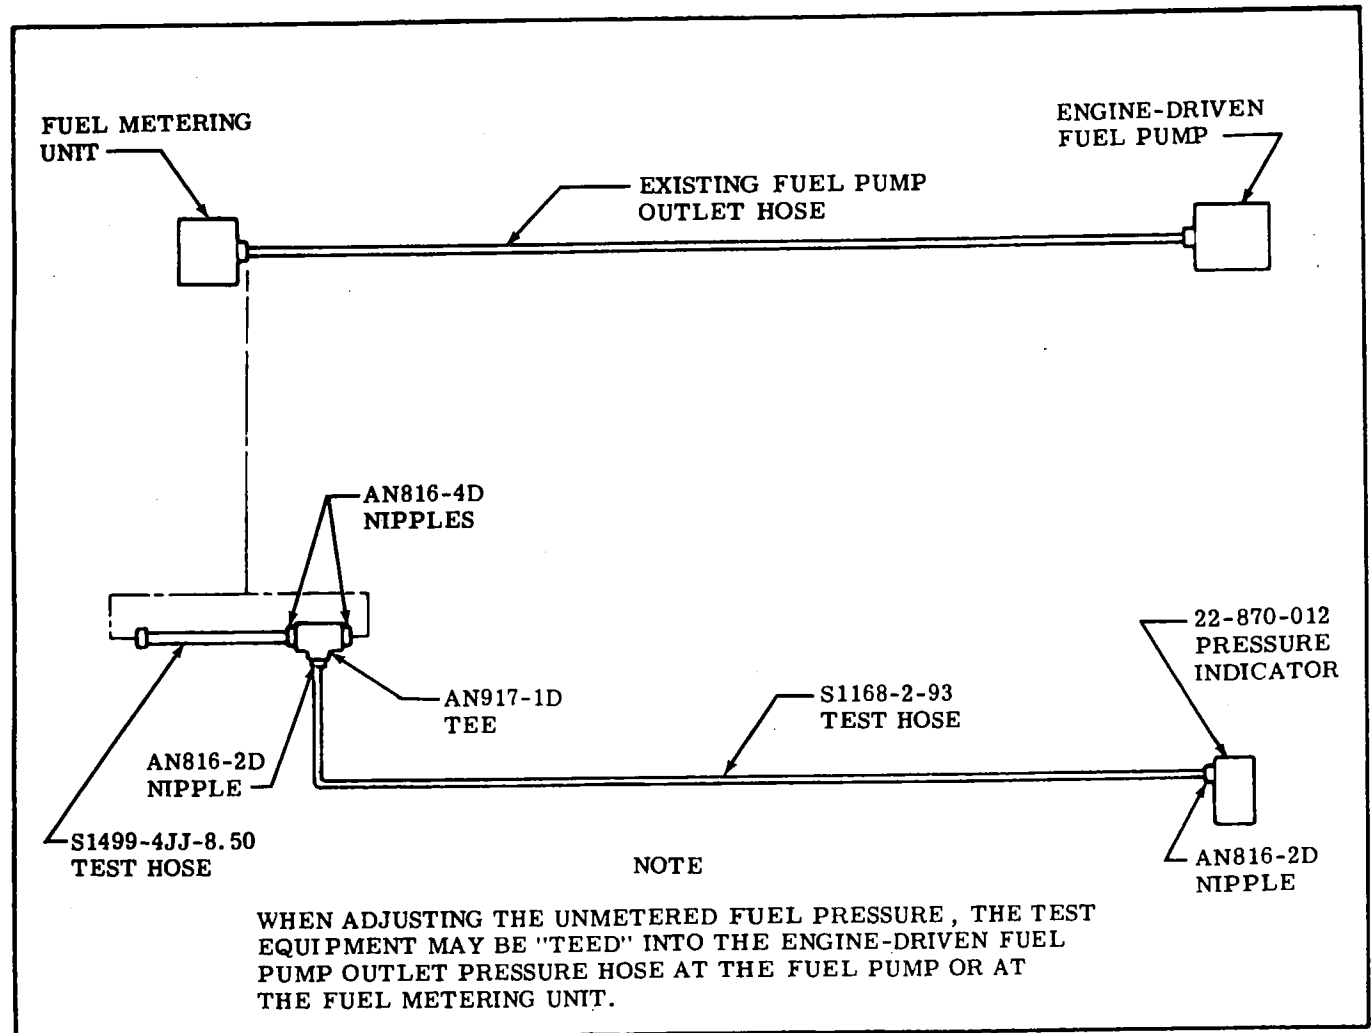

Figure 11-9. Test Harness Fuel Injection Pump Adjustment
- Disconnect engine-driven fuel pump hose at the fuel metering unit. Using test hose and fittings, connect test gage pressure port into fuel injection system in accordance with figure 11-9.